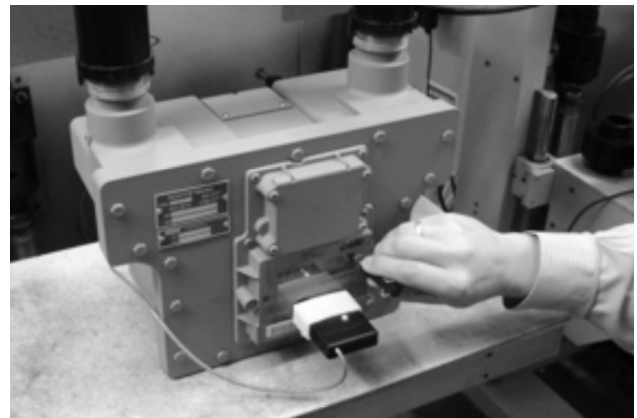

Figure 1.14 Example - Light on IrDA cable indicates connection is established
2. Place the meter into the Non-Compensated Prove mode. (Refer to Section 1.3 for information assistance.) Once the meter goes into prove mode the red light will switch from a flashing red light to a solid red light as shown in Figure 1.14 Example. Now the meter test will start.